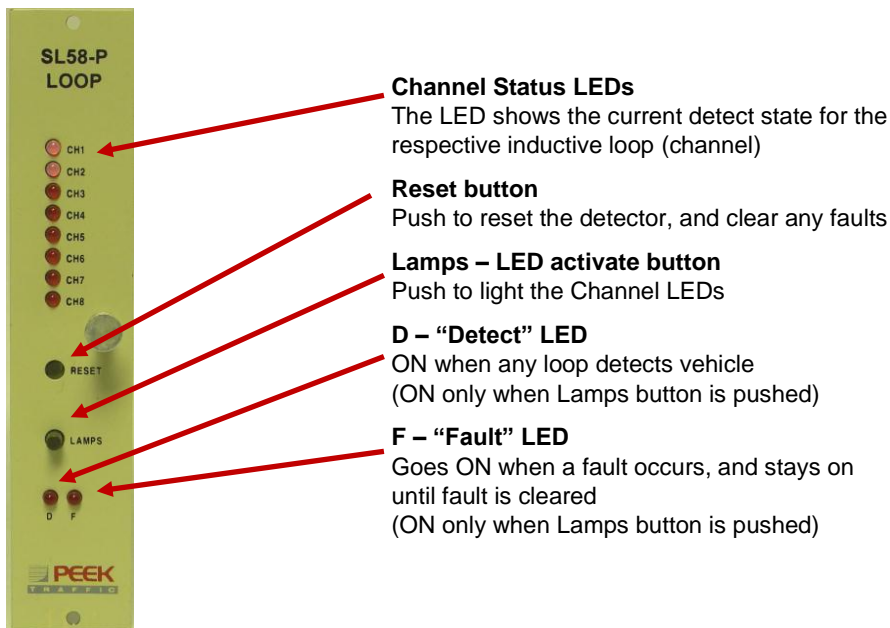

Figure 2 – LEDs and Buttons
- Press the **Reset** button (see *Figure 2*, p. 4).